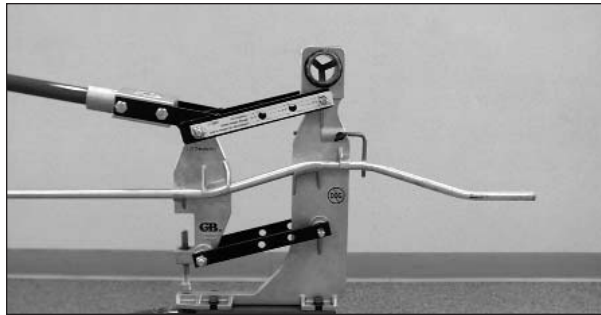

Figure 7
3. Push the handle down to complete the second offset bend. See Figure 7. Raise the handle and remove the conduit.